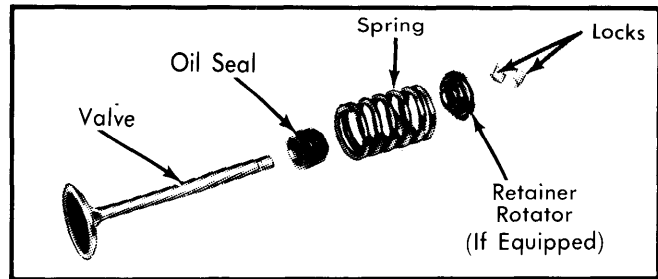

Fig. 4 Exploded View of Valve Assembly
**Removal** — With the cylinder head removed, compress valve springs using valve spring compressor. Remove valve retaining locks, valve spring retainers, valve rotators (if equipped), valve springs and valve stem cup seals. Before removing valves, remove any burrs from valve stem lock grooves to prevent damage to the valve guides. Identify valves to insure installation in original location. See Fig. 4.